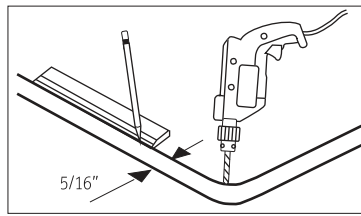

Figure 2
5. Remove sink from counter top and draw cutout line $\frac{5}{16}$ " inside the original rim outside line with $1\frac{1}{2}$ " radius at corners. Drill hole at the inside corner of the cutout line. (Figure 2)